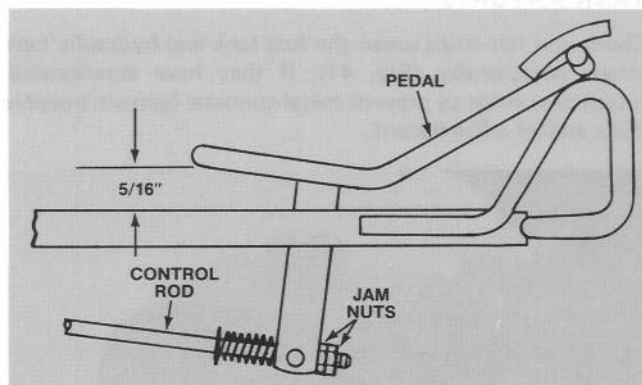

Figure 39
2. Loosen jam nuts on control rod (Fig. 39).
3. Press down on rear of pedal until there is 5/16" (.31) between pedal and foot rest (Fig. 39).